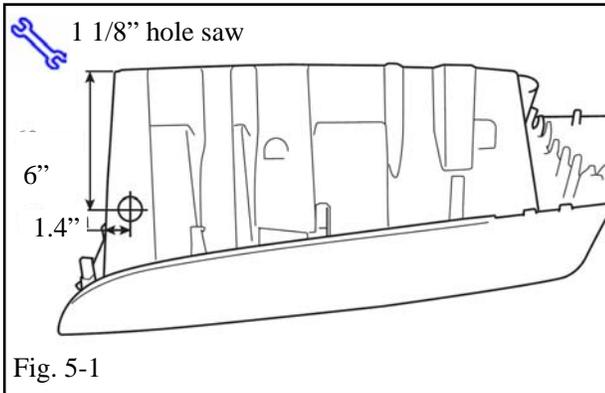
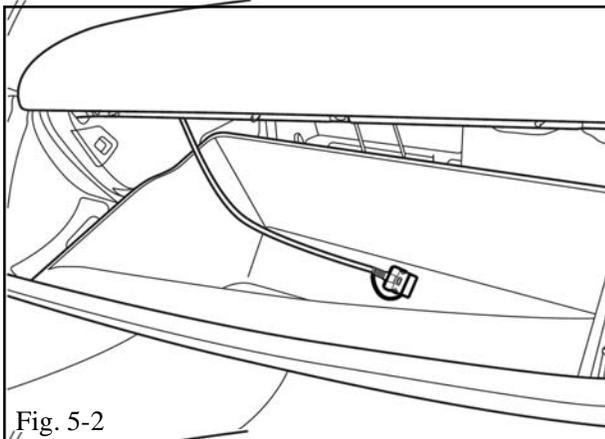

Fig. 5-1
Fig. 5-2
- (a) Make a round hole through which the cable can pass at the location on the glove box shown in the illustration. (Fig. 5-1)
- (b) Make a round hole through which the cable can pass at the location on the glove box shown in the illustration. (Fig. 5-1)
- (1) Hole saw is 1 1/8" (29 mm).
- (2) De-bur drilled hole.
- (3) Clean shavings from glove box after drilling.
- (c) Route the iPod cable terminal into the hole from outside of the glove box. (Fig. 5-2)